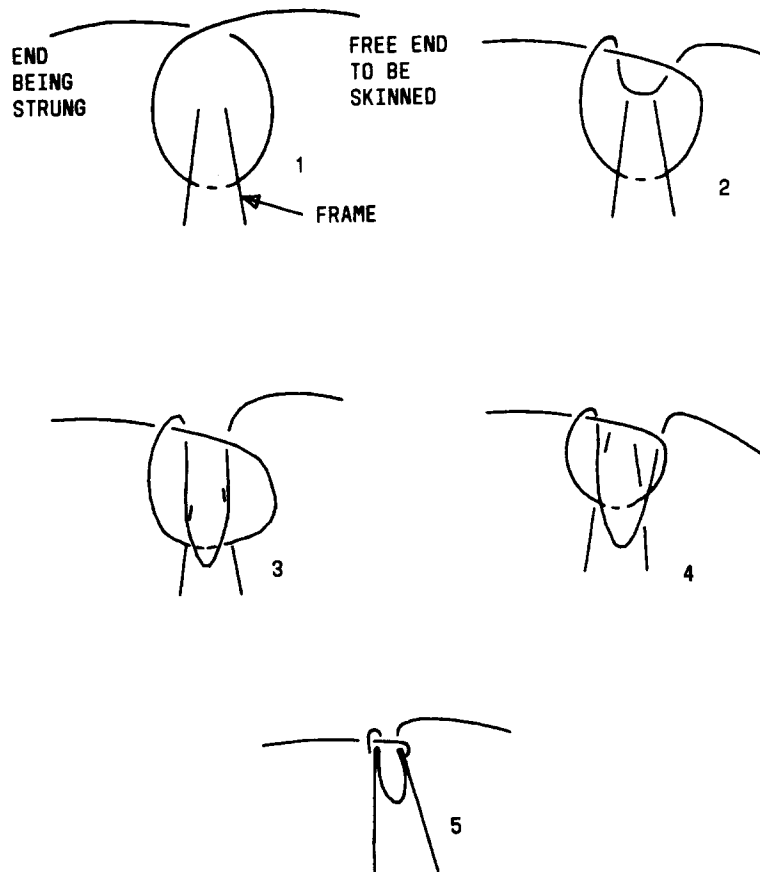

Fig. 6—Method for Making Solderless-Wrapped Connections
- (1) Use a slip knot to tie down wire in the terminal block fanning strip hole on the horizontal (equipment) side of the frame (see Fig. 6). Make sure that sufficient slack is left to make a soldered or solderless connection as applicable.
- (2) Take wire to vertical side and pass enough through fanning strip hole so there is sufficient